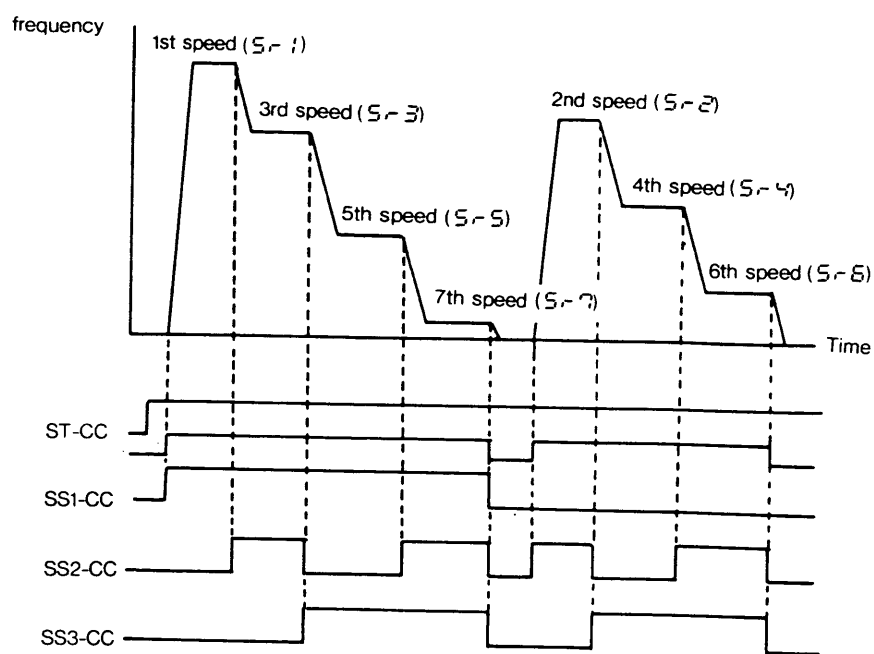

Fig. 8-22 Example of multispeed run (7-speed)
4) An example of multispeed run is shown in Fig. 8-22.